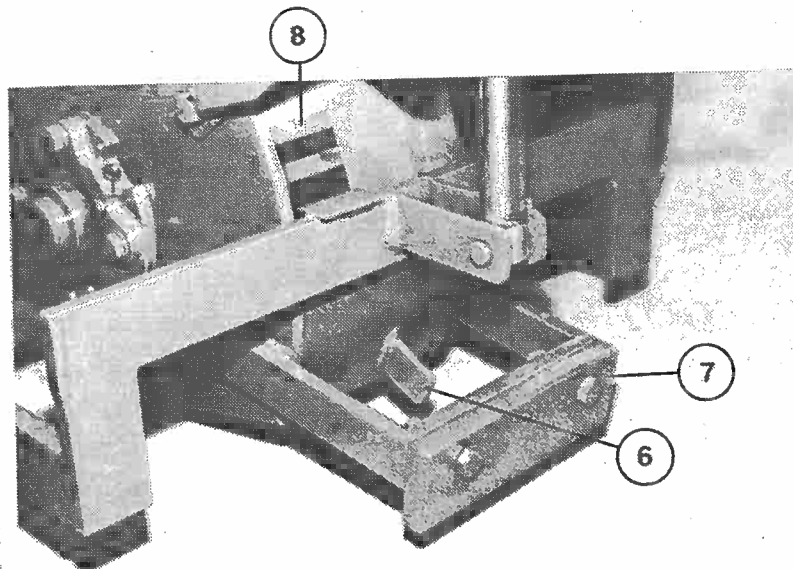

FIGURE 3
1. Open throttle for maximum engine speed. Position machine over joint and line up pointer [6] (Figure 3, Page 7) with joint. Machine is designed to travel in a direction towards the operator. The stabilizer mechanism [7] is designed to stabilize the machine and to act as a brake. The Model 200 has a tendency to self-propel itself when cutting. To slow or stop machine push down on the handle. Refer to Page 9 for a more detailed explanation.
2. Lower cutter head until cutters slightly touch the surface. Notice color on the depth indicator [8] (Figure 3). To cut 3/4 inch depth, lower cutter until same color appears on depth indicator. Each color represents 1/4 inch depth variation.